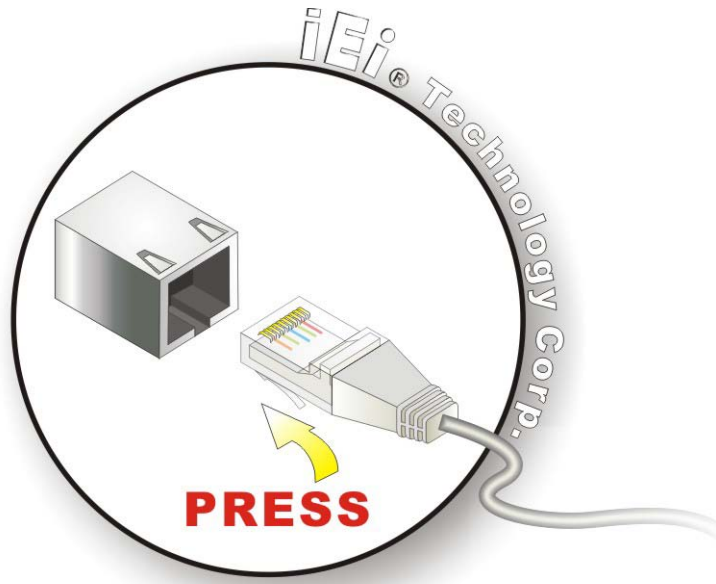

Figure 3-18: LAN Connection
Step 2: Align the connectors. Align the RJ-45 connector on the LAN cable with one of the RJ-45 connectors on the TANK-720. See **Figure 3-18**.